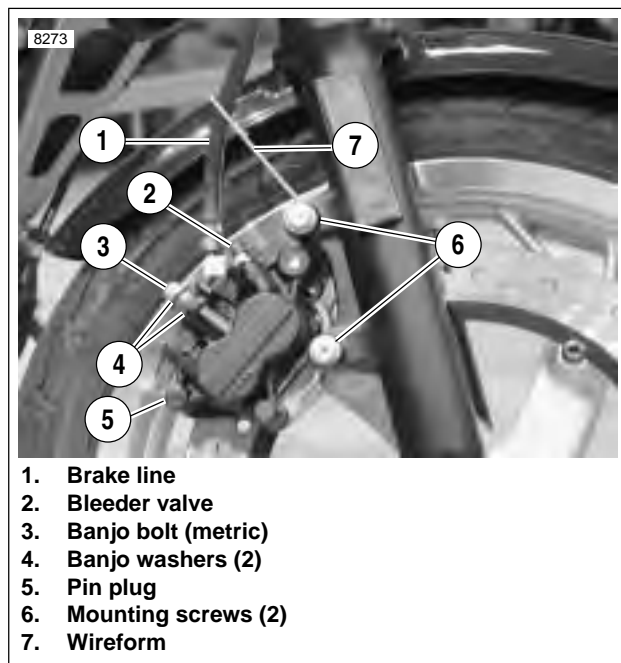

Figure 2-37. Front Brake Caliper
2. See Figure 2-37. Remove banjo bolt (3) (metric) and two banjo washers (4) to disconnect brake line (1) from caliper. Discard banjo washers.
4. See Figure 2-37. Detach caliper from mounts.
- a. Remove lower mounting screw (6).
- b. Remove upper mounting screw (6) and brake line wireform (7) while supporting caliper above brake rotor.